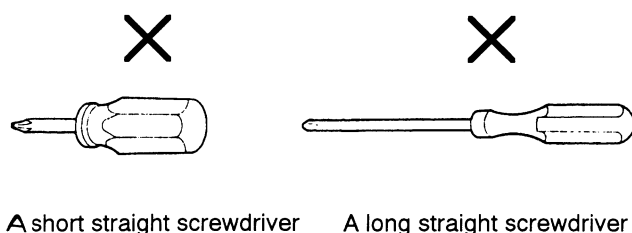

Fig.2
- A short straight screwdriver may be used for removal, but cannot be used for mounting because the limited space in the unit will not allow sufficient tightening torque. (See Fig.2)
- Insufficient tightening will cause poor heat dissipation from the power IC and regulator transistor and, in the worst case, may lead their thermal breakdown. (See Fig.2)